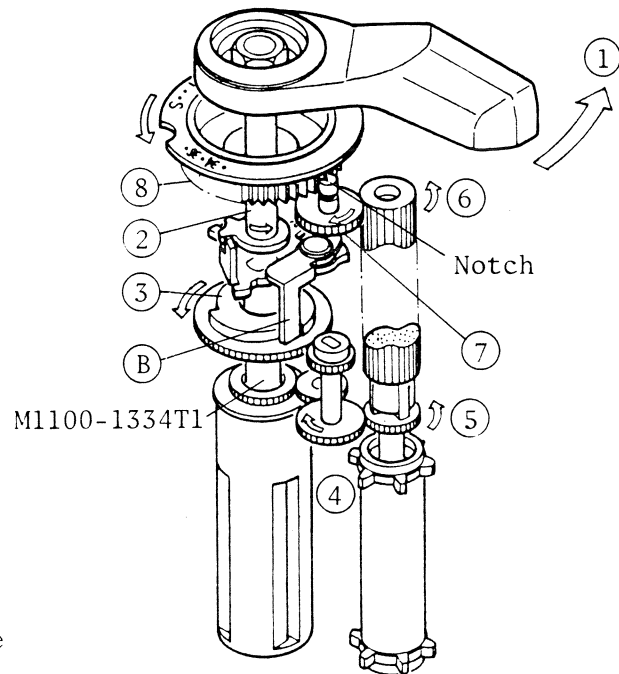

Fig.18
- 2) When winding the (1) film advance lever, the M1100-1334T1 winding shaft is rotated by the shaft (2). At the same time, the (3) cam gear is rotated by the arm (B). (Fig. 18)
- 3) The (5) sprocket clutch gear is rotated through the idle gear which is engaged with the cam gear.
Then the sprocket shaft and sprocket are rotated and advances the film. (Fig. 18)
- 4) The (7) film counter advance gear which is engaged with the (6) sprocket shaft gear is rotated by the sprocket shaft gear. (Fig.18)
- 5) One tooth of the (8) film counter gear is advance by revolution of the notch of the (7) film counter advance gear. (Fig. 18)
- 6) When opening the back cover, the lever (A) returns and the film counter gear is detached from the notch shaft. Then the film counter is reset to starting position by the M1100-14221 spring.